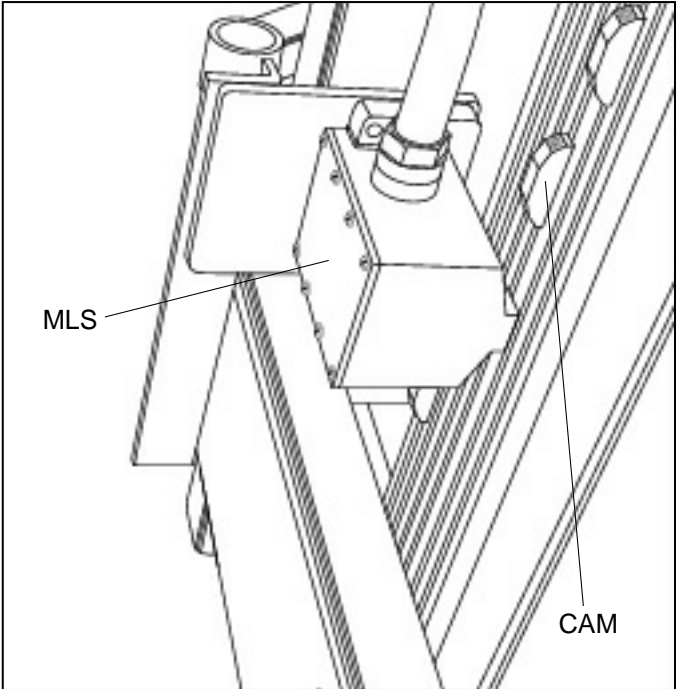
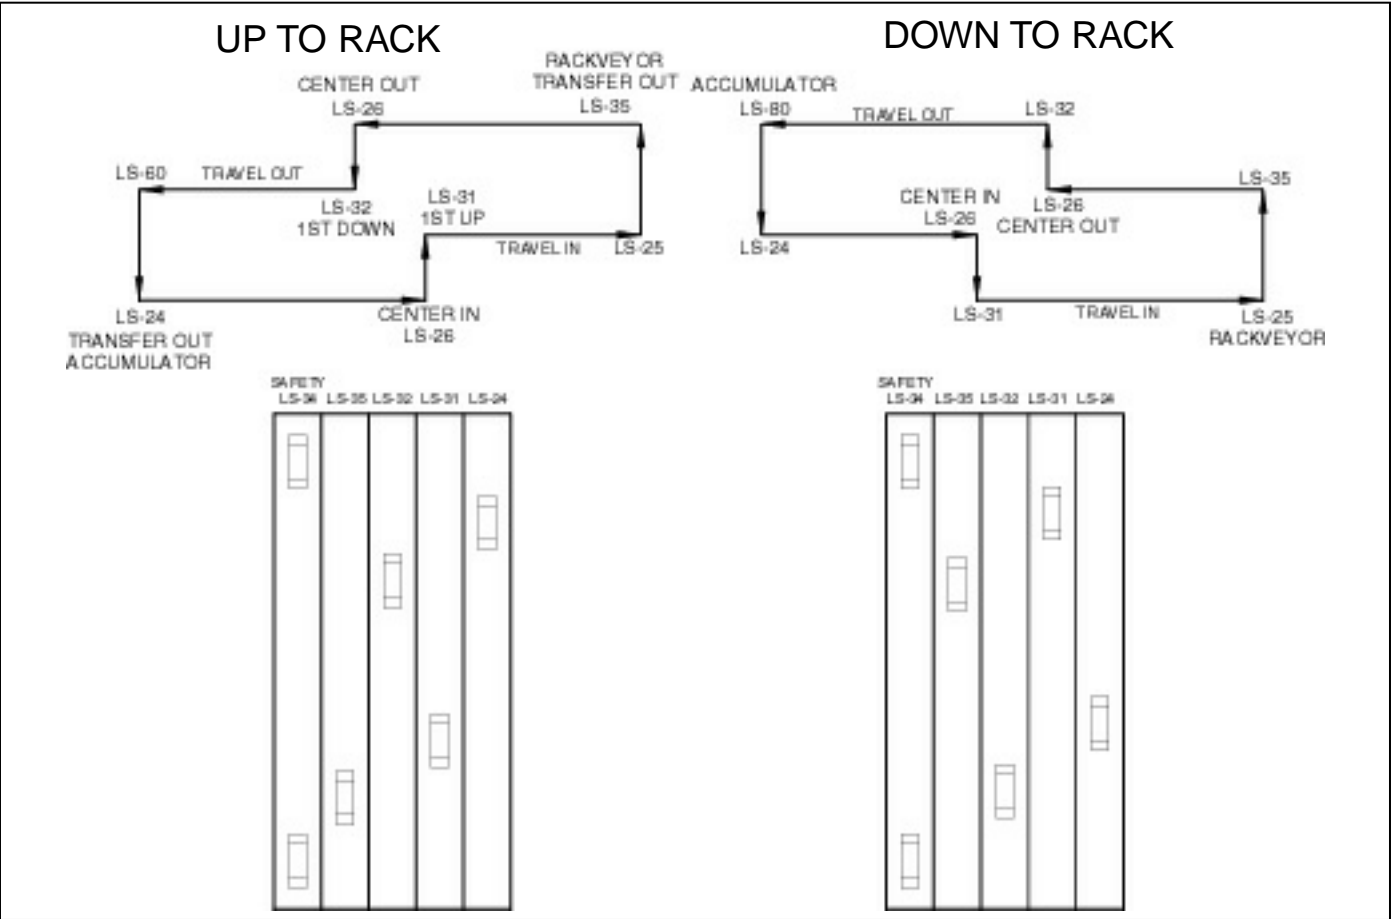

Figure 2.21 MULTIPLE LIMIT SWITCH (MLS).
Figure 2.22 CAM BOX CONFIGURATION (APPROXIMATE).
A MLS (figure 2.21) is located on the loader spade. 5 switches control the up and down movement of the lower spade. It is important to adjust the cams so that switches are actuated at a precise location. Figure 2.22 below identifies all 5 switches in the switch box.
2.2.5.3 Refer to figure 2.22 below to identify switch direction and approximate cam locations. Remember that these cam locations are approximate; they will need to be adjusted as shown here.